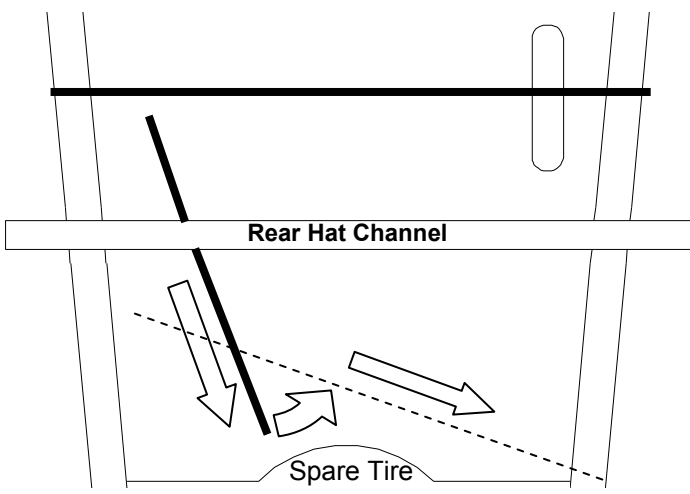

Figure 11
Step 3 : Insert rear base rail (shorter rail) up from the front and on to the passenger side frame. (Figure 11)